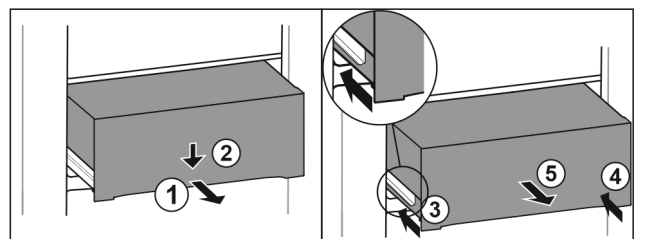

Fig. 148
- Pull out drawer half-way. Fig. 148 (1)
- Push the drawer down at the front. Fig. 148 (2)
- Push the left rail in by about 2 cm. Fig. 148 (3)
- Push the right rail in by about 2 cm. Fig. 148 (4)
- Remove drawer to the front. Fig. 148 (5)